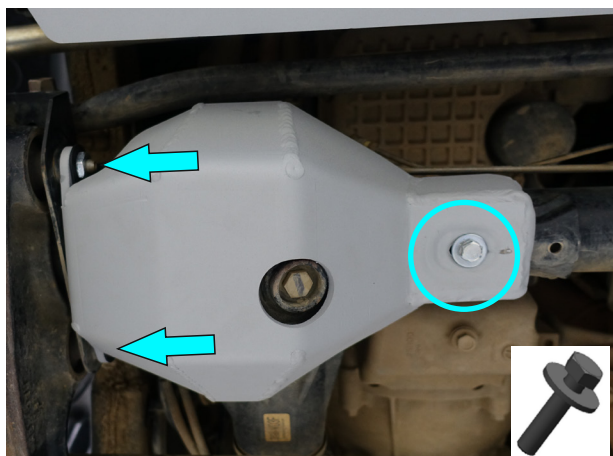

Fig. 3
2. Put skid plate (item 1) on OE bolts M12 and fix it to insert nut using bolt M8x20 with washer 8 (item A, B) (fig. 3).